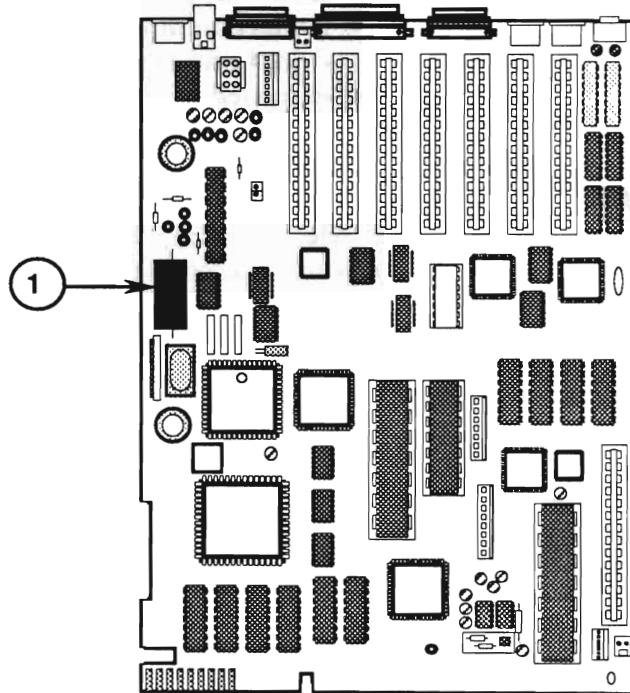

FIGURE 11
2. Locate the battery on the front of the logic board (Figure 11, #1). Turn the logic board over. The battery is held in place by two soldered leads.